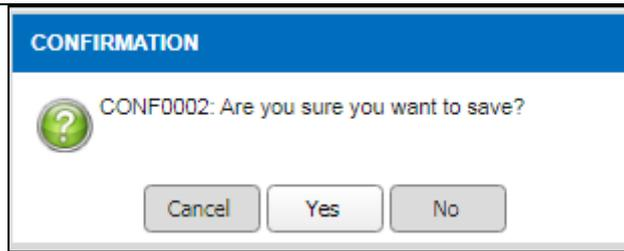

Figure 4.1.3-9 Alert Message
-  and  will be displayed after the transaction is successfully saved as per Figure 4.1.3-11.